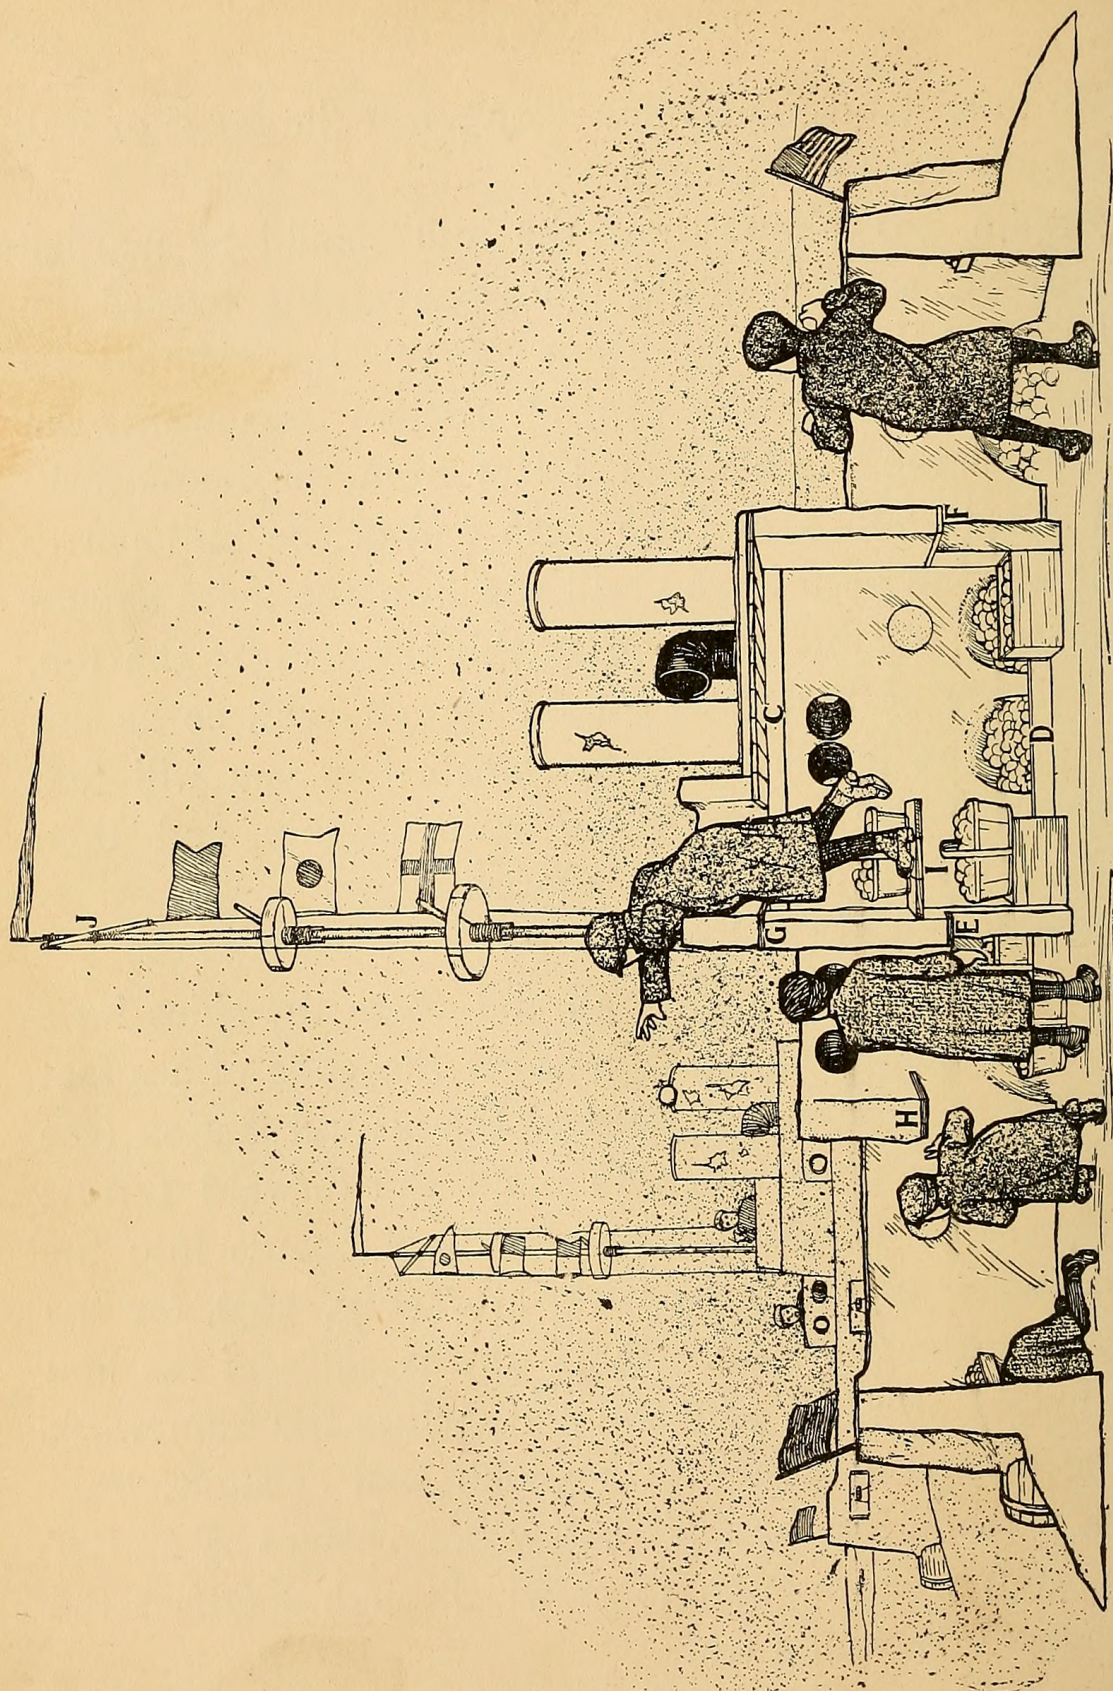
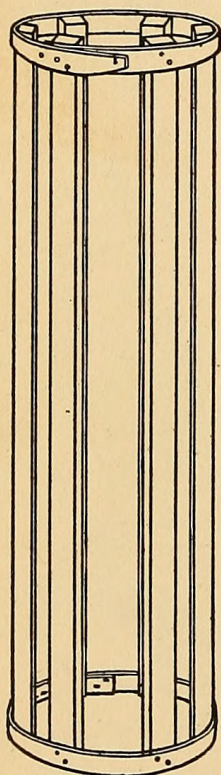

FIG. 363. — Two Battleships in Action, showing a Longitudinal Section of One Battleship.
FIG. 367.
**A Torpedo Tube** (Fig. 363), and when the sides have reached a height of 30 inches, set the ends of a 4-foot board in them 2 feet forward of the central station (see *H*, Fig. 363) upon which to build the forward turret; at the same height set two or three boards into the walls inside of the framework, at *I* (Fig. 363), for the conning-tower platform. Build up the sides of the hull to a height of 3 feet 6 inches, and inclose the framework of the central station with a 5-inch wall of snow, leaving a passage fore and aft below cross-pieces *E* and *F* (Fig. 363) wide enough to crawl through. Offset the wall above the hull a trifle.
**The Conning-tower** 12 inches above the superstructure deck (Fig. 363), and that of
**The Midship Turret** on to the side of the ship. The shaping of the conning-tower and turrets can be done with a shovel or a shingle. To lessen the apparent height of the hull, bank snow around the base (Fig. 363).
**The Crosstree** should be 2 feet long; tie it securely at its center to the mast at *J* (Fig. 363).
**Paper Signal Flags** (Fig. 363). Pictures of these flags, in color, may be found in an encyclopedia.
**The Construction of the Funnels** is shown in Fig. 367. Unfasten four barrel-hoops and make them 12 inches in diameter, and cut twelve sticks 3 feet 6 inches long. Nail the sticks to the inside face of the hoops (Fig. 367), then cover the framework with heavy wrapping-paper. Place these funnels upon the deck as shown in Fig. 363, and pack enough snow around their bases to hold them in position. For
Figure 363 shows the interior of your ship while in action. This illustration will suggest
**The Captain of the Ship**, whom you must choose beforehand, will command from the conning-tower (Fig. 363), and must appoint the other men to their respective places on the forward deck, in the forward turret, the central station, and aft. He also selects the boy *torpedo boats*.
**For a Naval Battle** there should be at least two ships built with broadsides opposite (Fig. 363). Of course you can have a land and naval battle if the enemy prefer to build a fort, but there will be more fun with battleships. Certain